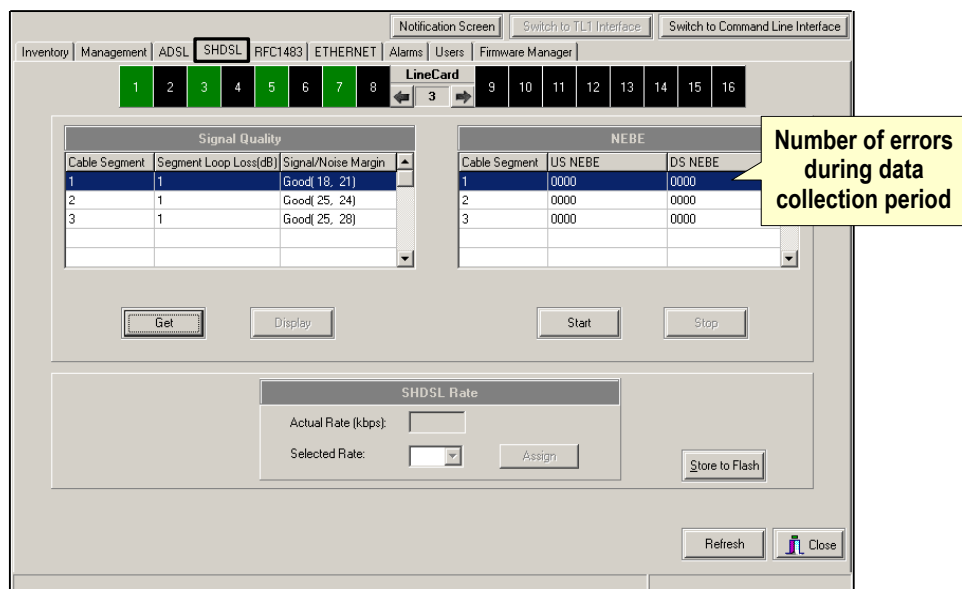

Figure 67 – NEBE data collected
*The number of upstream (US) and downstream (DS) errors that occurred since you clicked **Start** appear for each segment in the selected slot (Figure 67).*